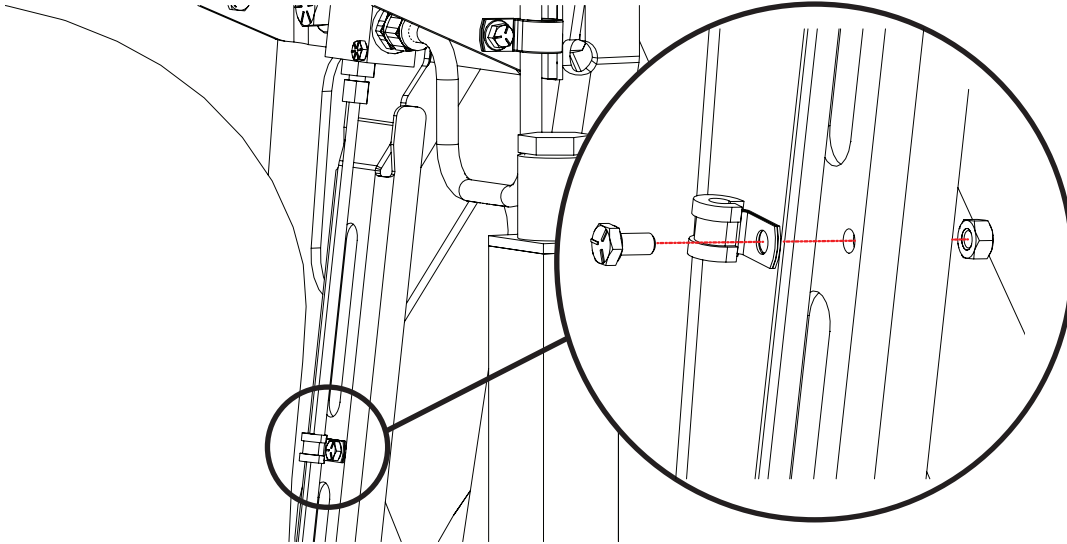

Figure 11: Remove and retain the bolts, clamps, and nuts that secure the trigger line to the rail. Quantity is dependent on length of trigger line.
3. Remove and retain the bolts, clamps, and nuts that secure the trigger line to the rail (Figure 11). Quantity is dependent on length of trigger line.